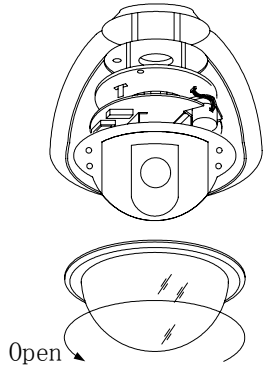

Figure 6
2. Rotate the vitreous cover counterclockwise and take out it. (see Figure 6) Note: It can be